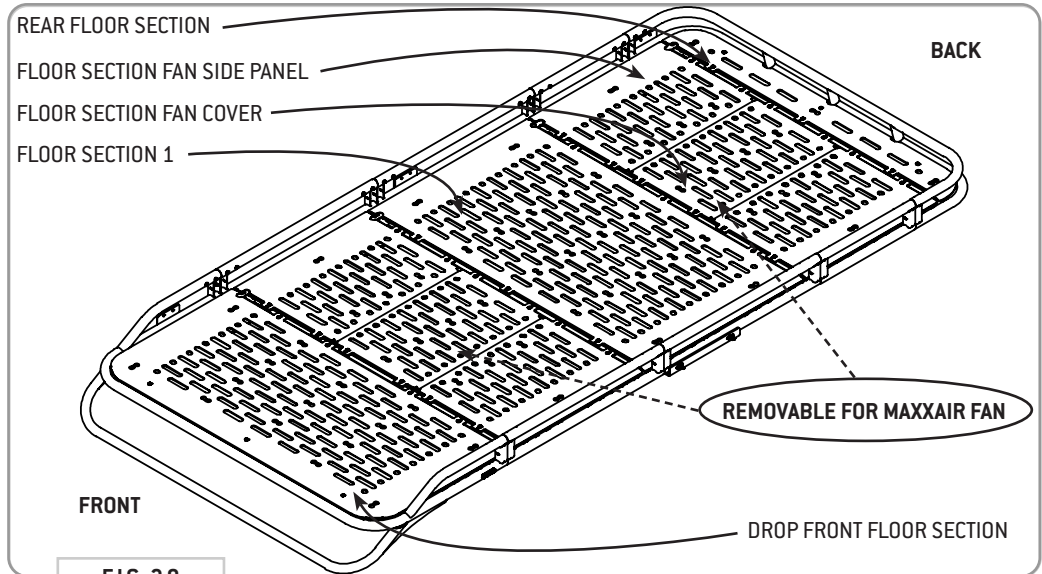
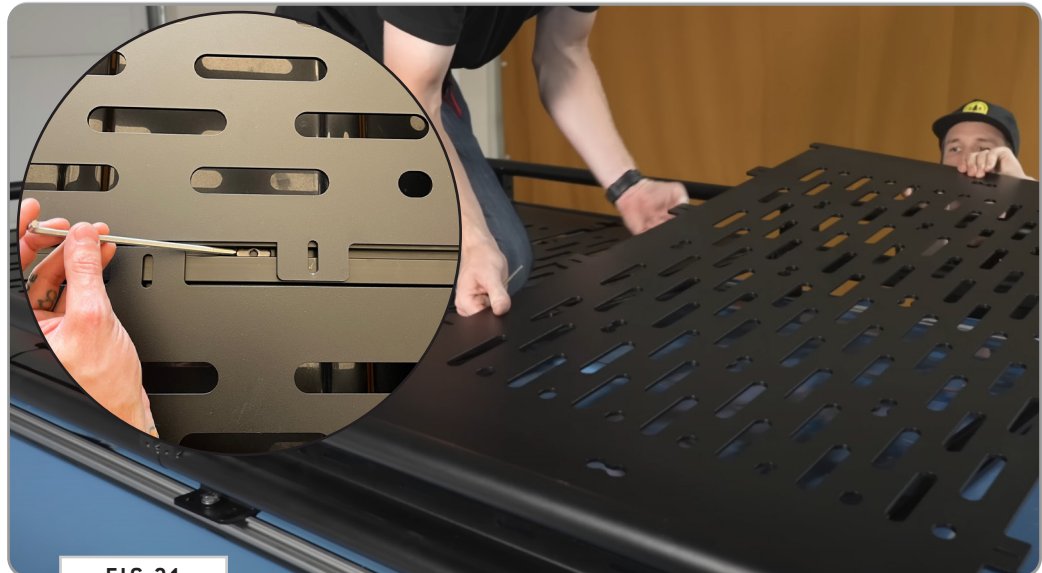

FIG 30
FIG 31
12.1 Install Floor Panels: Begin to layout your **Decking Panels** along the locations shown in **FIG 30**. Adjust the **T-Nuts** as necessary to line up with the available pill slots of the **Decking Panels** (**FIG 31**).